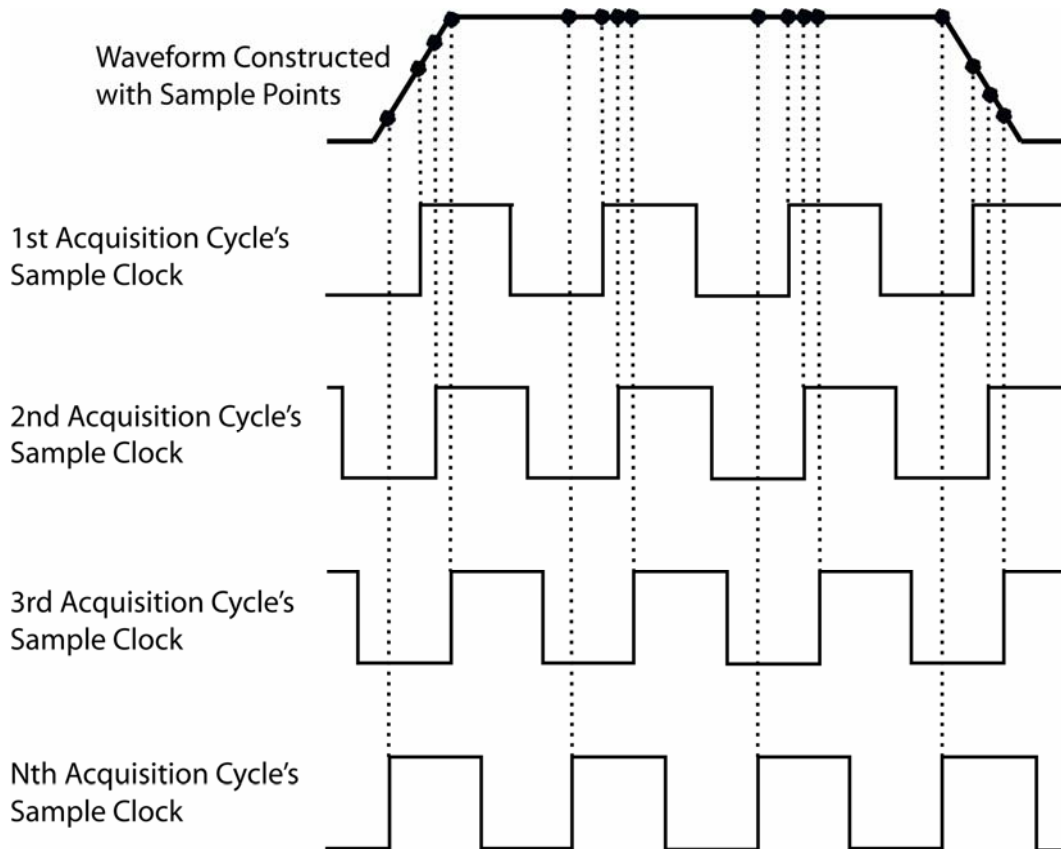

Figure 6: Equivalent Time Acquisition
- In Equivalent-Time mode, a picture of a repetitive waveform is constructed by capturing a little bit of information from each repetition. This enables waveforms to be reconstructed at equivalent-time sample rates greater than the real-time sample rate (See Figure 6). Because the points appear randomly along the waveform, it is important to note that an entire waveform may not be constructed unless there are sufficient repetitions. Also, the number of points per point (selectable from 2 to 100) can be set to increase the resolution of the waveform. (See the *Average Equivalent Time Points Command*).